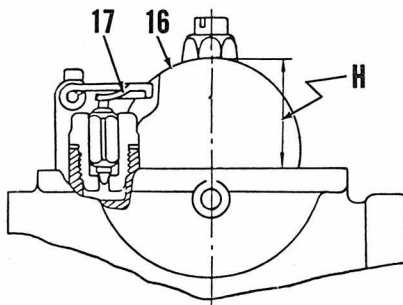

Fig. BS3-2—Float level (H) is adjusted by bending tang (17). Float bowl gasket should be removed when checking.
needles (11) after removing carburetor side covers. Approximate setting for idle mixture needle (11) is 1½ turns open. Clip (5) should be installed in third groove from top of needle (6). Float level (H—Fig. BS3-2) should be 23/32 inch. Main jet standard size is 95 for 175 cc models; 90 for 200 cc models with standard carburetors. Normal size jet for the larger (22 MM) carburetors is 230 to 250 if used without air cleaners. If air cleaners are installed, a smaller main jet will be required (210-220).